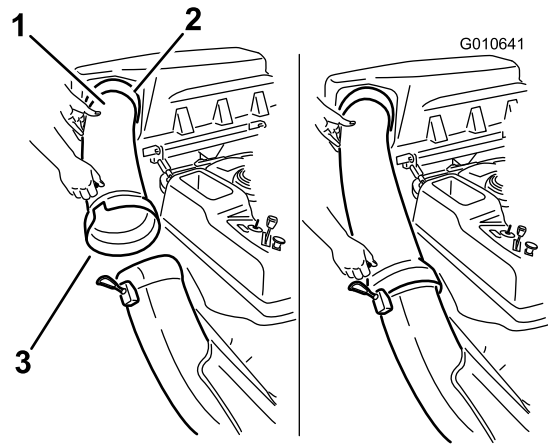

Figure 24
1. Slide the curved end of the discharge tube into the opening in the bagger top (Figure 24).